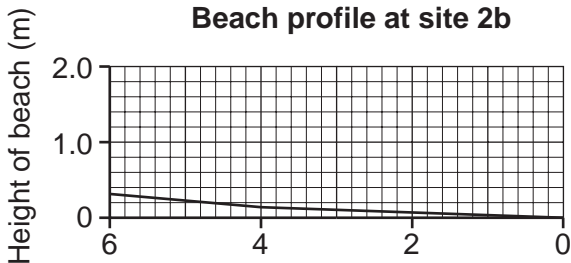

Fig. 4
- (c) (i) Study the results of the beach profile measurements in Table 1. Complete the beach profile for site 2a on Fig. 4. [2]